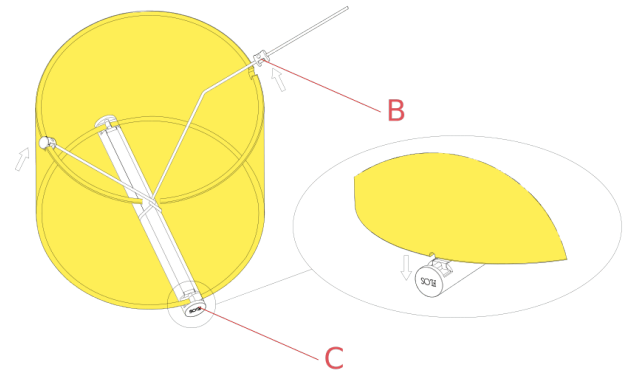

Fig.2
Remove the body (D) of the device from the wall attachment (A) by unhooking it from the hooks (E) present on the wall attachment.(Fig.2)